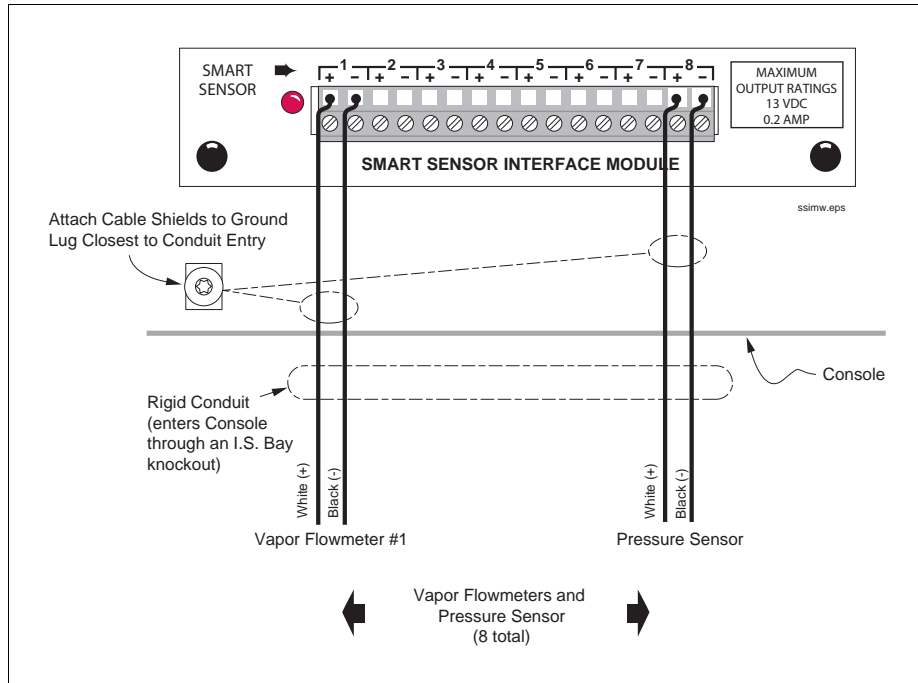

Figure 6. Connecting Vapor Flow Meter to TLS-350 Smart Sensor Interface Module
3. Terminate field wiring into TLS-350 Consoles and connect to Smart Sensor Module located in the intrinsically safe wiring compartment as shown in Figure 6. Terminate field wiring into TLS-450 Consoles and connect to USM Module located in the module bay of the console as shown in Figure 7. Note: you must observe polarity! Also, the cable length between the console and sensor must not exceed the distance stated in the appropriate console's Site Prep manual. For the wireless version, terminate the wires in the TLS RF transmitter (W2).